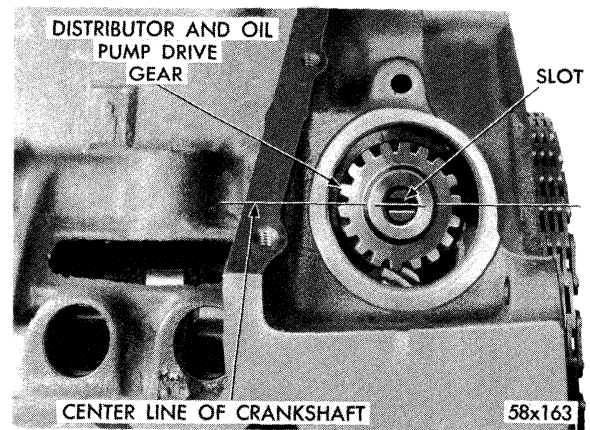

Fig. 76 — Distributor Drive Gear Installation
Before installing the distributor and oil pump drive shaft, time engine as follows: Rotate the crankshaft until No. 1 cylinder is at top dead center on firing stroke. When in this position, the straight line on the vibration damper should be under (DC) on the timing indicator. Coat shaft and drive gear with engine oil. Install the shaft so that after the gear spirals into place, it will index with oil pump shaft, so that the slot in top of drive gear will be parallel with center line of crankshaft as shown in Figure 76.